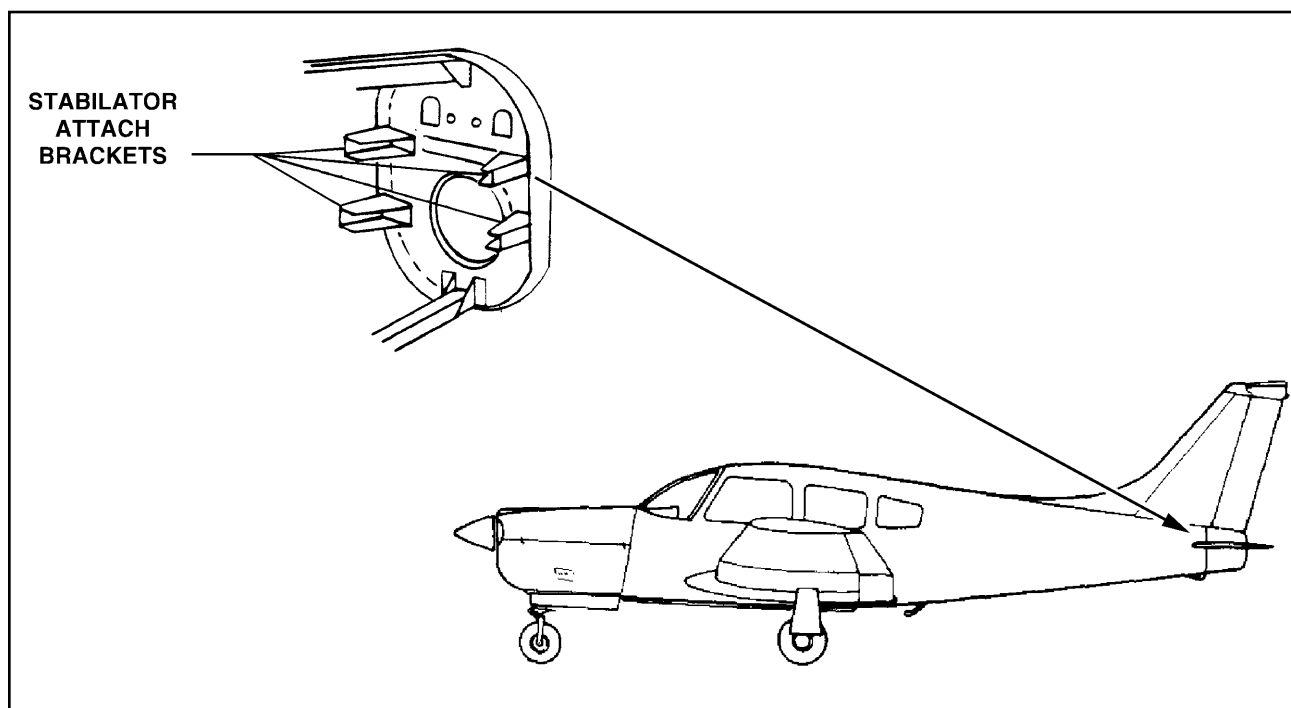

Figure 3-8. Stabilator Attach Fitting Corrosion Inspection
- (c) Inspect the steel attach fittings (4 places) for the stabilator and adjacent fuselage structure for rust and/or corrosion. (See Figure 3-8.)